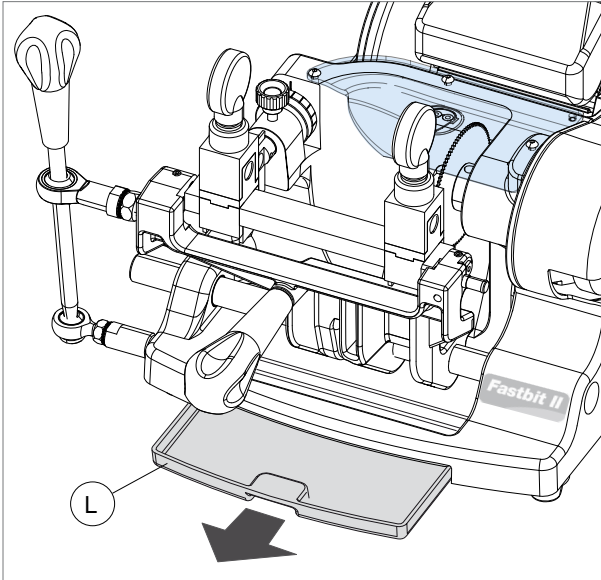

Fig. 55
- 2) Remove the swarf tray (L) (Fig. 55).